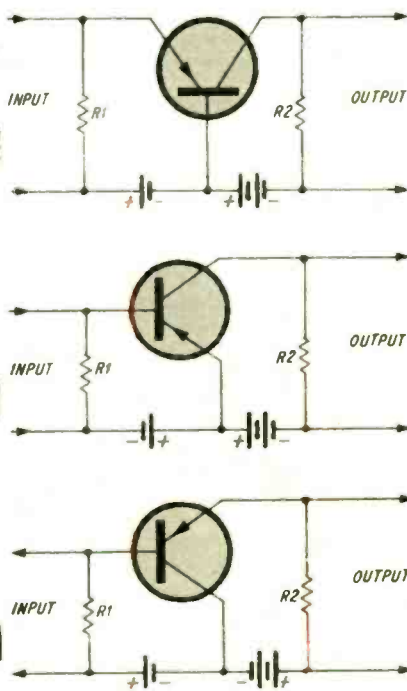
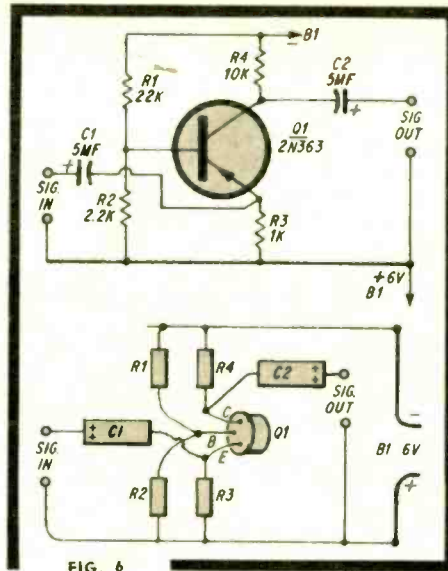
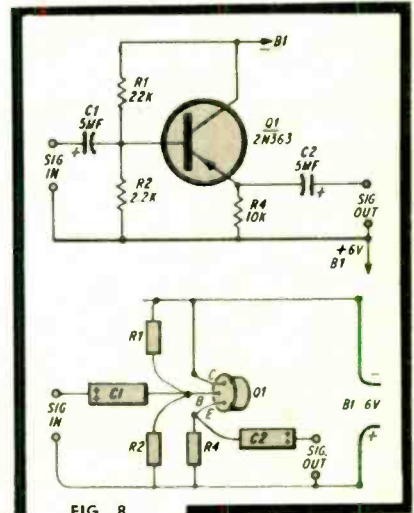
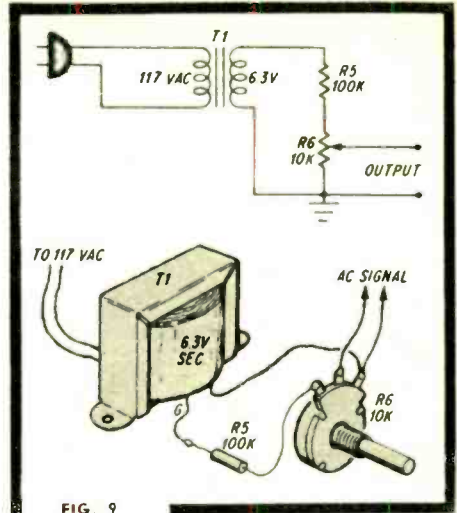

FIG. 5
FIG. 6
FIG. 8
FIG. 9
common-base (CB), common-emitter (CE) and common-collector (CC) types are shown in Fig. 5. A standard CE amplifier using a PNP transistor is shown in Fig. 6. (NOTE: all resistors shown are 1/2-watt, 10% except R8, which is 2 watts. All capacitors are electrolytic, 10 volts or higher rating.) The input signal is applied to the base and the output is obtained at the collector. In the equivalent vacuum-tube amplifier the input signal is fed to the grid and the output obtained at the plate.
Note that unlike our previous theoretical example, in the practical circuit of Fig. 6 a single battery (B1) supplies bias voltage to both the base and collector. At the input, the base connects into the voltage divider formed by R1 and R2 across battery B1. This places a bias voltage on the base (with reference to the emitter) of about 1/10 the battery voltage.
It is also necessary to provide a negative voltage (reverse bias) between collector and base. This is accomplished in Fig. 6 by connecting one end of resistor R4 to the negative terminal of the battery. Note that the negative voltage at the collector is far higher than the voltage the divider permits at the base. This establishes the reverse bias between these two elements.
The standard common-emitter, like the standard amplifier tube circuit, reverses the phase of any signal passing through it. We can demonstrate this in a simple experiment using the circuit of Fig. 6. Connect a volt-meter or VOM set for a low DC voltage range with its negative lead to the collector and its positive to ground (B1+). The meter will read between 2 and 4 volts.
Now let's check the common-collector circuit of Fig. 8. Since the CC is the transistor analog of the vacuum-tube cathode-follower, it is frequently referred to as the emitter-follower. Like the CE amplifier in Fig. 6, the input signal is applied to the base. However, the collector doesn't feed a load resistor. It is connected directly to the battery. Signal output is obtained
We can check the phase shift from input to output in the following way. With the circuit wired as shown in Fig. 8, place a voltmeter across R4 with the positive lead to ground (B1+). Less than 1 volt should be read.
Voltage Gain. For the experiments, we will use the transistor circuits of Figs. 6, 7 and 8. In each case, a small 6.3-volt filament transformer serves as the signal source, using the circuit shown in Fig. 9. The AC input signal is kept small in order not to overdrive the transistor. An oscilloscope will be used to view the transistor output.
The general procedure for each amplifier circuit is the same. We'll use the circuit of Fig. 6 and apply the AC signal voltage at the input of the stage. The oscilloscope is connected across